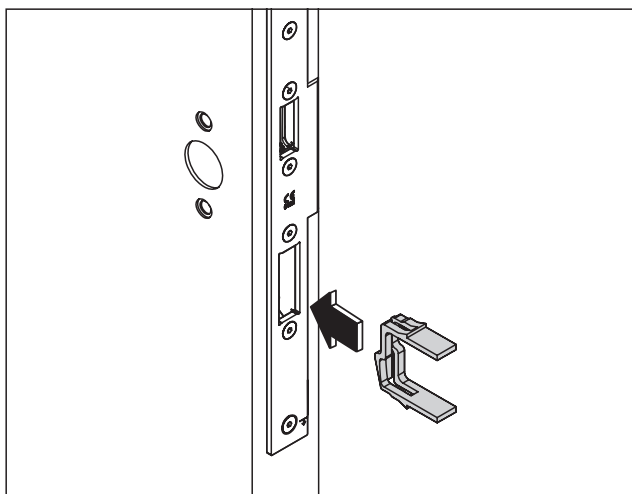

Fig. 45 Insert locking clamp
7. Insert the locking clamp into the SVI lock (Fig. 45).